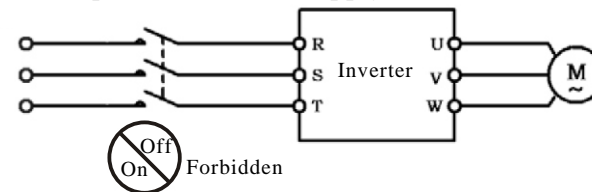

图 1-5
- DO NOT proceed direct start-stop operation frequently with a contactor or any other switch devices in the inverter input side. As large charging current exists in the main circuit of the inverter, frequent power-on/off may produce cumulative effect resulting in heat fatigue of inverter components and great reduction of service life of the inverter. See the detail in the Figure 1-5.